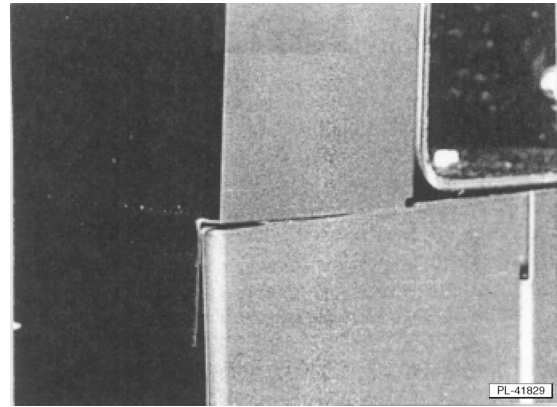

Fig. 12
5. Replace back tops and top castings onto range (Fig. 12). Shipping brackets removed in Step 2 are no longer required and may be discarded.